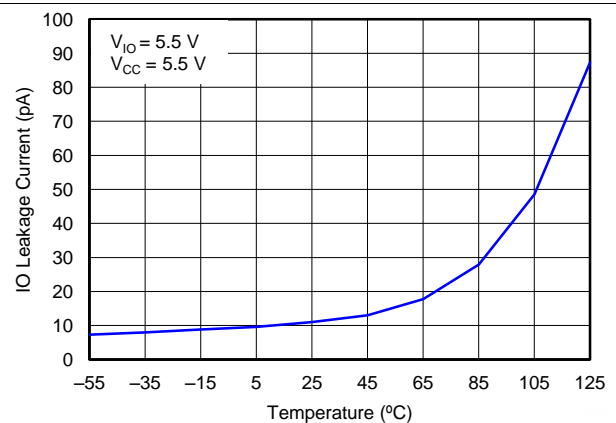

Figure 2. IO Leakage Current vs Temperature
• Revised <a href="#">Figure 2</a> graph .....	5